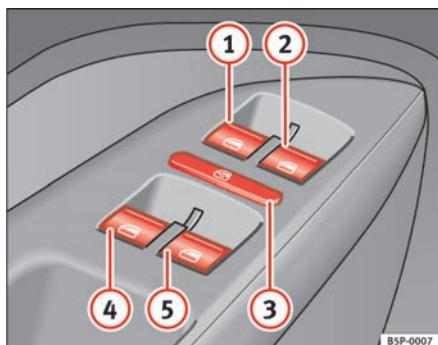

Fig. 68 Detail of driver door: controls for the front and rear windows
The buttons ⇒ page 106, fig. 68 ① and ② have two levels for opening the window and two for closing it. This makes it easier to open and close windows to the desired position.